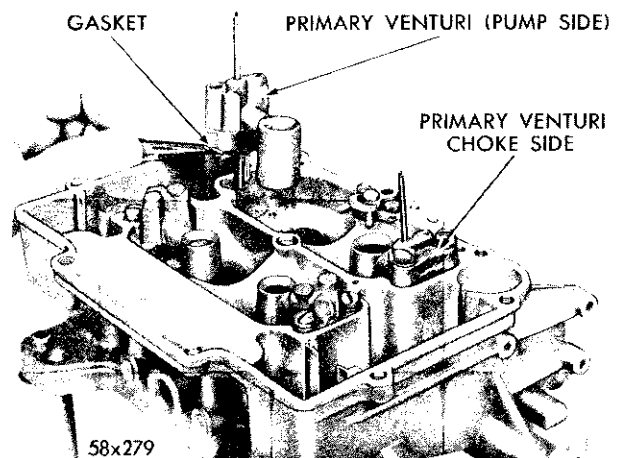

Fig. 25—Removing or Installing Primary Venturi
(4) Remove the screws that attach the primary venturi (choke and pump side) to the main body. Lift the venturi straight up and away from the main body, as shown in Figure 25. Discard the gaskets.
(5) Place new primary venturi gaskets in position, then install the primary venturi (pump and choke side) by lowering straight down on the gaskets. (See Fig. 25). Install attaching screws and tighten securely.